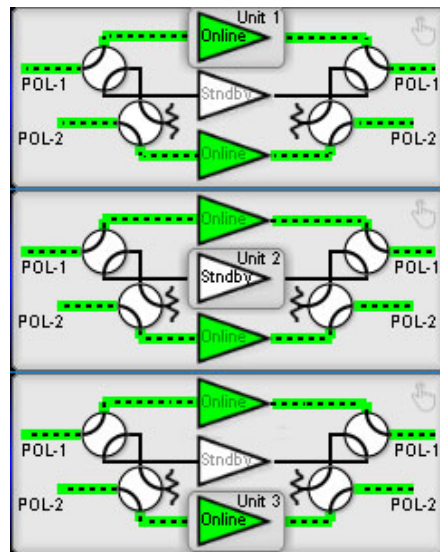

Figure 12: MIMIC Panels, with HPA2 on Standby in 1:2 System
Figure 12 shows the MIMIC panel for the three (3) amplifiers in a 1:2 Redundant System. The green dotted lines indicate the RF path through the input switches on POL1 and POL2, to Unit 1 (HPA1) and Unit 3 (HPA3) and then through the output switches. The online amplifiers are also green to indicate their online status.